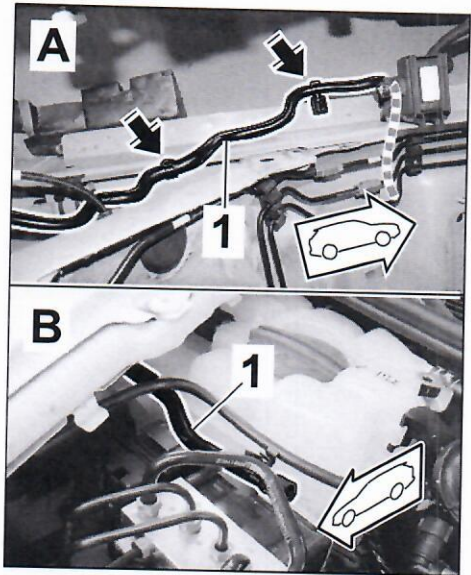

Figure 16
- 3.4.2 Route control line for wheel housing ⇒ *Figure 16-1-* between the wing and wheel housing to the engine compartment ⇒ *Figure 16-B-* and fit fixing clips ⇒ *Figure 16-arrows-*.